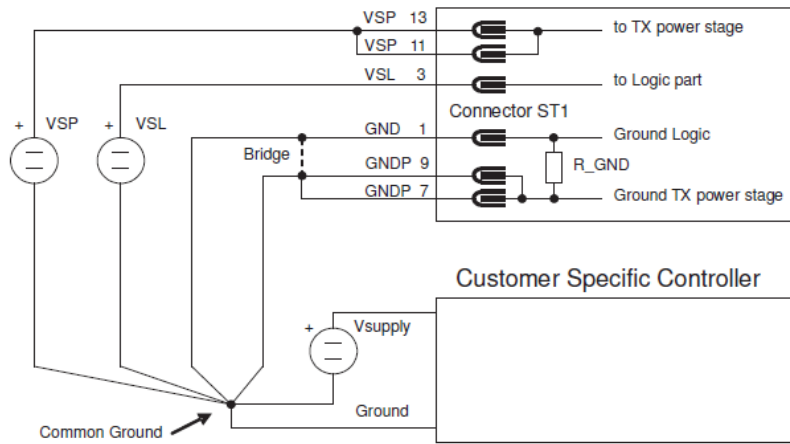

Figure 5.4 External Ground Connection
1. A high resistivity of the GNDP pins could cause a voltage drop across these pins, due to high transmitter power stage current (this does not apply to the supply pins of the logic section). If the grounds were connected to each other internally, this would also lift the internal logic ground and cause logic level compatibility problems with the Control Module (see Figure 5.4).
2. To provide greater flexibility when using long supply lines. Long VSP supply lines between the RFM and the Control Module cause a voltage drop across this supply line (again due to high-transmitter power stage supply current). This voltage drop would also lift the logic ground and cause logic level compatibility problems with the Control Module. This can be avoided by connecting the grounds externally in any of three different ways (see also Figure 5.4) as described below:
For cable lengths of up to 0.5 m between RFM and Control Module, the RFM ground pins GND and GNDP must be connected at the Control Module, as shown in Figure 5.4. The grounds for the VSP, VSL and the Control Module supply are connected at a common ground. Alternatively, if the voltage drop across the VSP supply line is less than 0.5 V (likely in this case), the ground pins GND and GNDP may be connected at the RFM. When using a customer-specific controller, care must be taken to connect the RFM ground pins GND and GNDP to an appropriate ground on the controller.
Cable lengths longer than 2m are not recommended. If the application demands cabling longer than 2m, the logic signals between the RFM and the Control Module should be done via a differential interface (for example RS422). Due to different ground potentials at different locations it may also be necessary to provide galvanic separation of the interface signals by, for example, opto-couplers. In this case, to avoid problems with difference voltages between GND and GNDP, these pins must always be connected directly at the RFM. As shown in Figure 5.4, a shorting bridge is necessary for this purpose, situated as close as possible to the RFM.